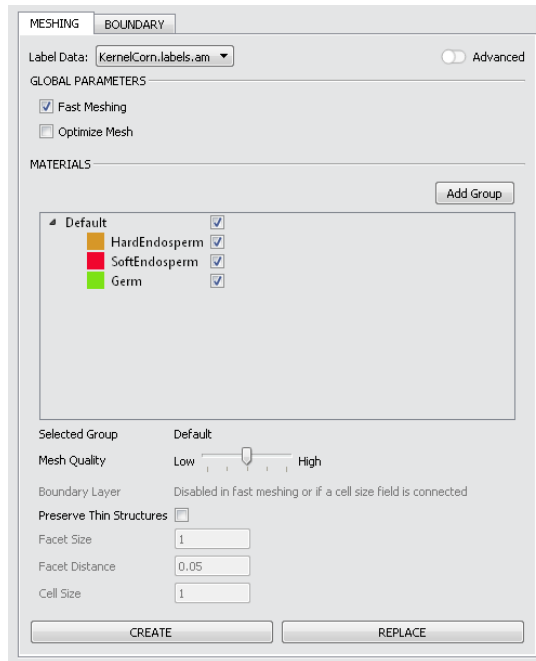

Figure 20.2: The Meshing Tab
- **A Meshing tab:** This is where you build the mesh. A label input can be set using the label data field. Once you set the Create button so that it becomes accessible, you may generate a mesh (Figure 20.2).